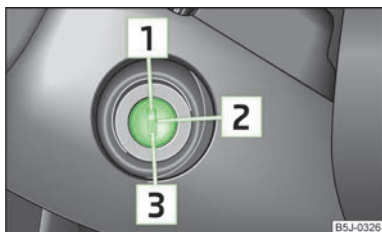

Fig. 82
- When driving, the ignition key must always be in the position **[2]** » Fig. 82 on page 81 (ignition switched on) without the engine running. This position is indicated by the warning lights coming on. If this is not the case, it could result in unexpected locking of the steering wheel - risk of accident!
- The starter may only be operated (ignition key position **[3]** » Fig. 82 on page 81), if the engine is not running. The starter or engine can be damaged if the starter is activated when the engine is running.
If the **steering is locked** and the key cannot or can only be turned with difficulty into the position » Fig. 82, move the steering wheel back and forth and the steering lock will unlock.
- Fully depress and hold the clutch pedal, switch on the ignition » Fig. 82 on page 81 and start - do not operate the accelerator. Depress the clutch pedal until the engine starts.
Switch off the engine by turning the ignition key into position » Fig. 82 on page 81.